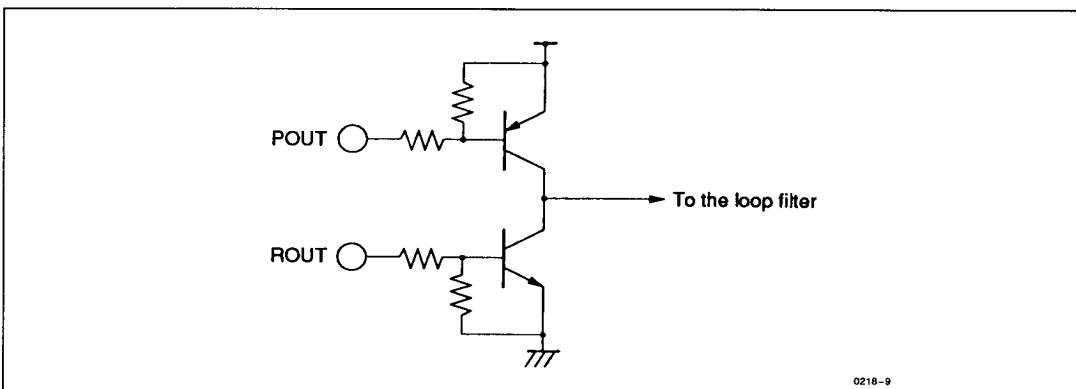

Figure 7. ROUT and POUT Pin Application Example
**Use of the Monitor Pins:** Of the monitor pins described above, the ROUT and POUT pins can be used as shown in the circuit in Figure 7.